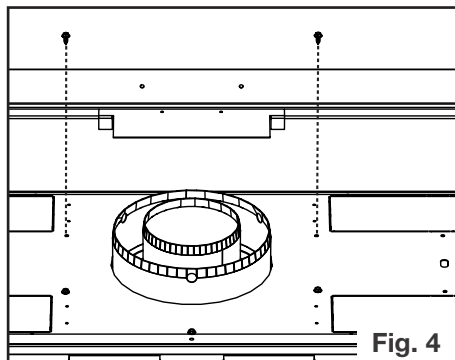

Fig. 4
4. Unscrew the fasteners as shown **(Figure 4).** **DO NOT DISCARD FASTENERS**